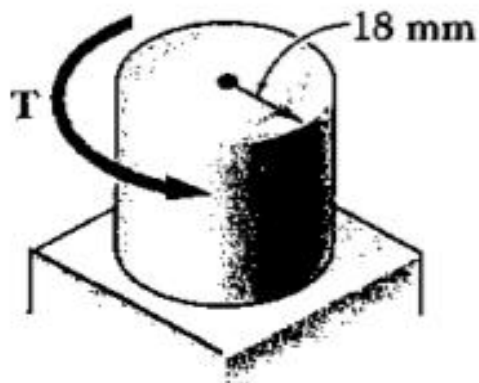

Figure 4
- c. (i) Determine the torque T which causes a maximum shear stress of 70 MPa in the steel cylindrical shaft shown in Figure 4 **[5 marks]**
(ii) with reference to Figure 4 determine the maximum shearing stress caused by a torque $T = 800\text{N}\cdot\text{m}$. **[5 marks]**